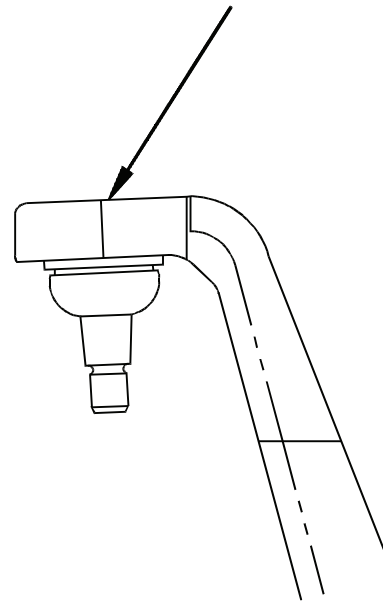

Figure 27 - Press-In Mount Upper Ball Joint Removal
6. Place support under steering knuckle upper ball joint mount. Press upper ball joint out of steering knuckle by applying load to the bottom of its base. (See Figure 27).